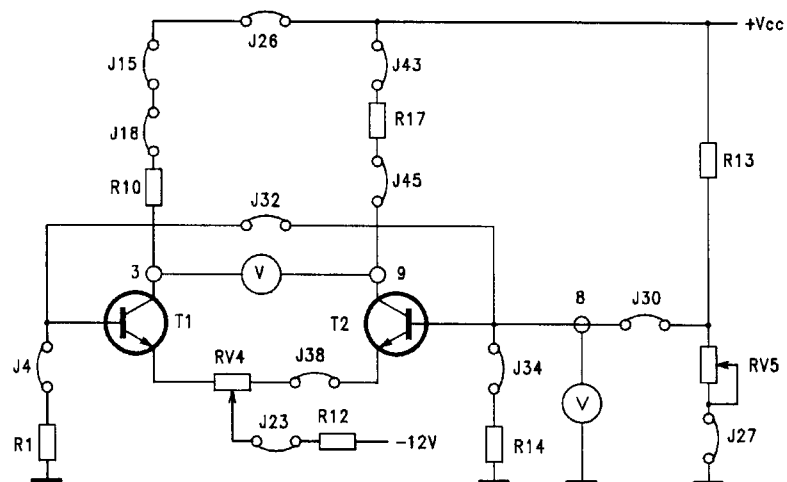

fig. B28.4
- From previous circuit, insert jumper J32, to obtain the circuit of fig.B28.4